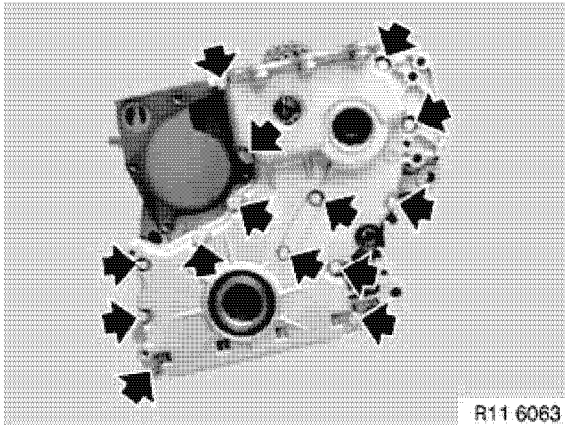

Figure 5-85
11. Remove bolts securing cover and remove timing case cover (**Figure 5-85**).